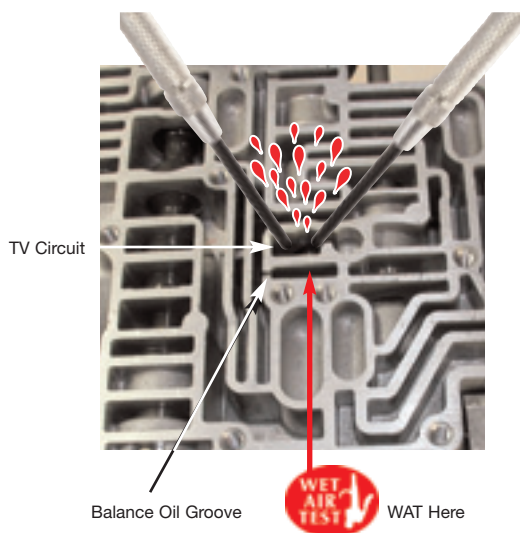

Figure 1
5. Set throttle lever stop using a Sonnax rivet (77917-RV) or equivalent tool measuring .627" as a gauge to set the distance between the throttle lever and the throttle plunger. To obtain the correct measurement, the throttle valve needs to be fully bottomed and the throttle valve spring fully compressed. With the tool in place, the valve line-up should have no movement (see Figure 1).